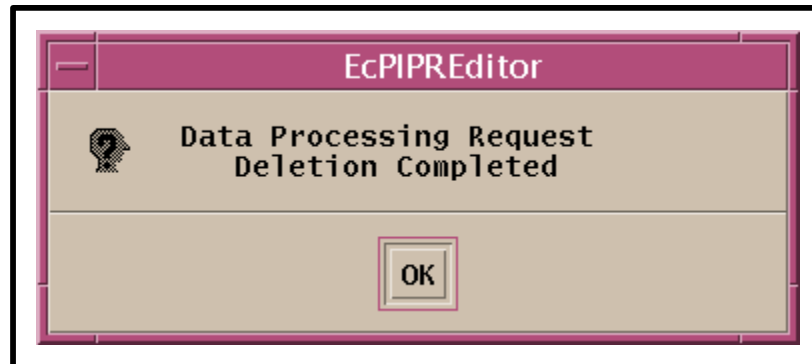

Figure 33. DPR Deletion Completed Dialogue Box
- A deletion dialogue box (similar to Figure 33) is displayed.€